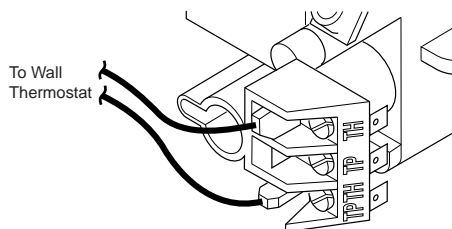

Figure 40 - Control Valve Terminals
3. Connect one terminal of the provided wire for the wall thermostat to the TPTH terminal on the valve. Connect remaining wire terminal to the TH terminal on the valve. Make sure that the wire terminals are in the positions on the unit as pictured in Figure 40. If wires are not connected as shown the thermostat will not work.
1. Connect one terminal of the provided wire for the wall switch to the TPTH terminal on the valve. Connect remaining wire terminal to the TH terminal on the valve. Make sure that the wire terminals are in the positions on the unit as pictured in Figure 40. If wires are not connected as shown the switch will not work.